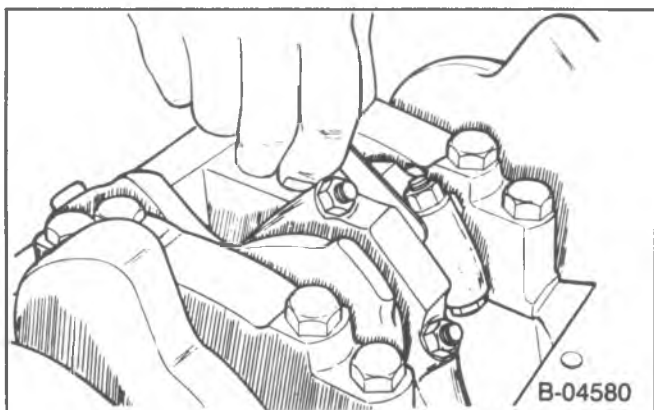

Figure 31—Measuring Connecting Rod Side Clearance
- Connecting rod side clearance. Use a feeler gage between the connecting rods (figure 31). The correct clearance is 0.006–0.014-inch.